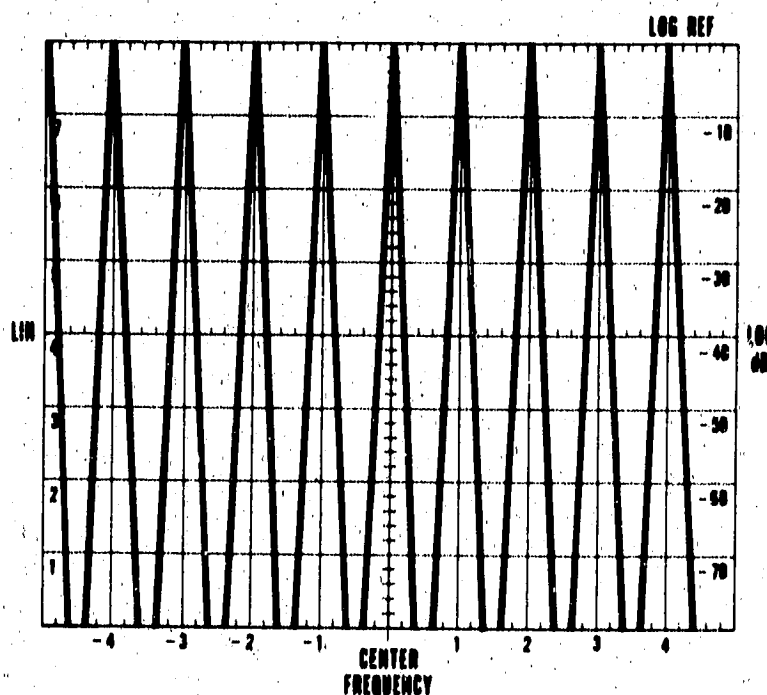

Figure 5-16. 50 MHz Bandpass Flatness Display
9. Tune FREQUENCY for display indicated in Figure 5-16 when FINE TUNE is rotated in 100 kHz steps.